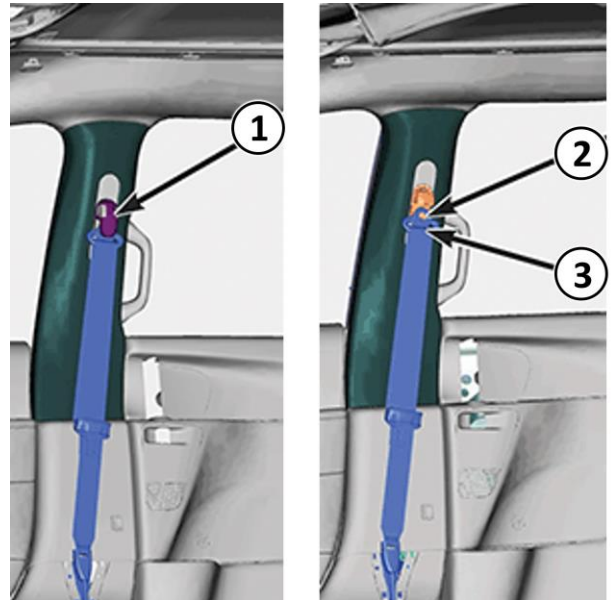

Figure 4 – B-Pillar Seat Belt
- 12. Move the seat belt height adjuster to the lowest position (Figure 4).
- 13. Using a trim stick or equivalent, remove the bolt cover (Figure 4).
- 14. Remove the seat belt turning loop nut (Figure 4).